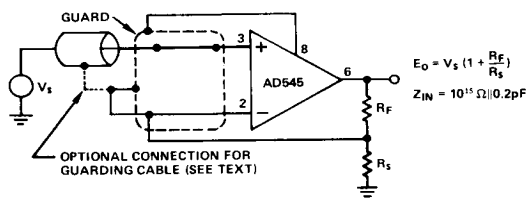
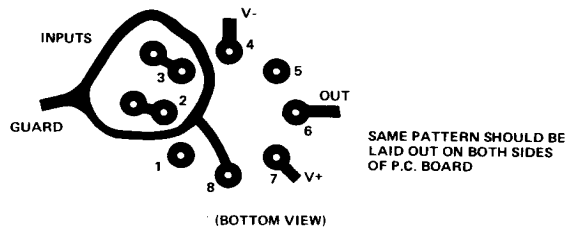

Figure 2. Very High Impedance Non-Inverting Amplifier
Figure 10. Board Layout for Guarding Inputs with Guarded TO-99 Package
2. The use of guarding techniques is essential to realizing the capability of the low input currents of the AD545. Guarding is achieved by applying a low impedance bootstrap potential to the outside of the insulation material surrounding the high impedance signal line. This bootstrap potential is held at the same level as that of the high impedance line; therefore, there is no voltage drop across the insulation, and hence, no leakage. The guard will also act as a shield to reduce noise pickup and serves the additional function of reducing the effective capacitance to the input line. The case of the AD545 is brought out separately to pin 8 so that it can also be connected to the guard potential. This technique virtually eliminates potential leakage paths across the package insulation, provides a noise shield for the sensitive circuitry, and reduces common-mode input capacitance to about 0.2pF. Figure 10 shows a proper printed circuit board layout for input guarding and connecting the case guard. Figures 2 and 3 show guarding connections for typical inverting and non-inverting applications. If pin 8 is not used for guarding, it should be connected to ground or one of the amplifier's power supplies to reduce noise.
3. Printed circuit board layout and construction is critical in achieving low leakage performance. The best performance will be realized by using a teflon IC socket for the AD545 but at least a teflon stand-off should be used for the high-impedance lead. If this is not feasible, the input guarding scheme shown in Figure 10 will minimize leakage as much as possible and should be applied to both sides of the board. The guard ring is connected to a low impedance potential at